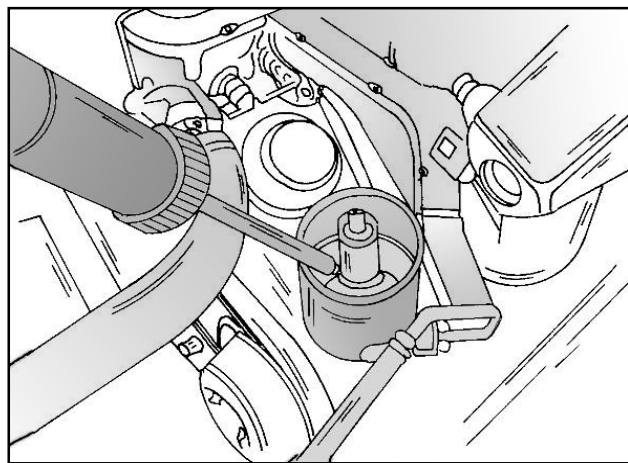

Fig. 1.9 – The fluid from the steering fluid reservoir can be removed with a suitable hand pump after removing the reservoir cap
- Empty the fluid container for the power-assisted steering. The workshop uses a hand-operated suction pump, illustrated in Fig. 1.9. Otherwise disconnect the